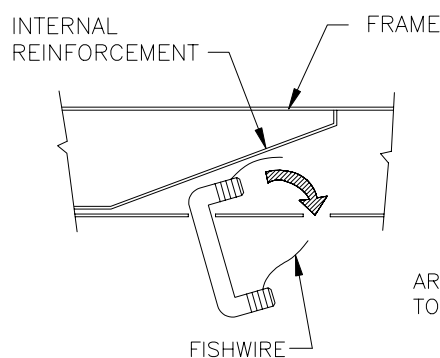

FIGURE 3
4. LOWER HITCH AND DRILL 9/16" HOLES (MARKED IN STEP 3) INTO FRAME. INSTALL U-BOLTS AS SHOWN IN FIGURE 3.
SUGGESTION: BEFORE REPOSITIONING HITCH ONTO VEHICLE WITH U-BOLTS IN PLACE, ATTACH FISHWIRE AS SHOWN IN FIGURE 3 TO PREVENT U-BOLTS FROM BEING PUSHED INTO FRAME.